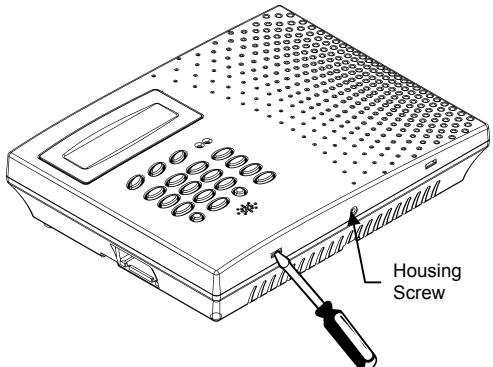

Figure 2.4: Opening the Housing
- Using a screwdriver carefully press the release tabs as shown in Figure 2.4.